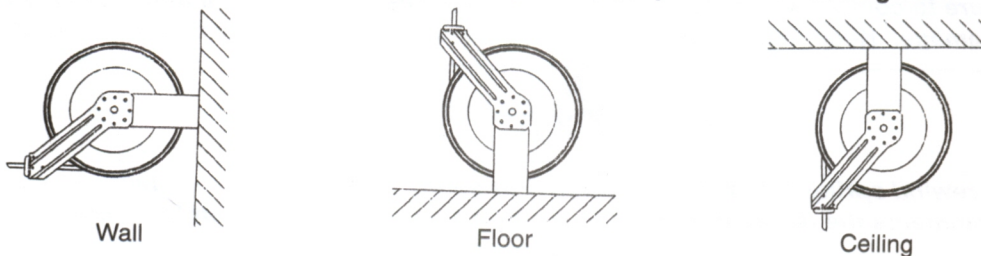

Figure 2
2. *The reel is supplied with hose guide roller bracket. The bracket position may be changed depending on the reel mounting position. Figure 2 show "Typical Mounting Positions". If bracket position needs to be changed, do the following:*